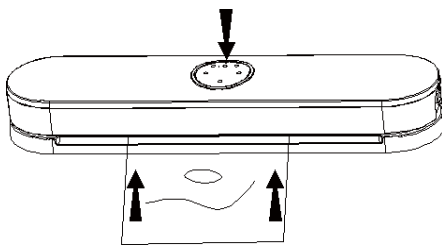

Figure 3
- 6.Then press the "auto"button, the machine will automatically complete the vacuuming and sealing, as shown in Figure 3;